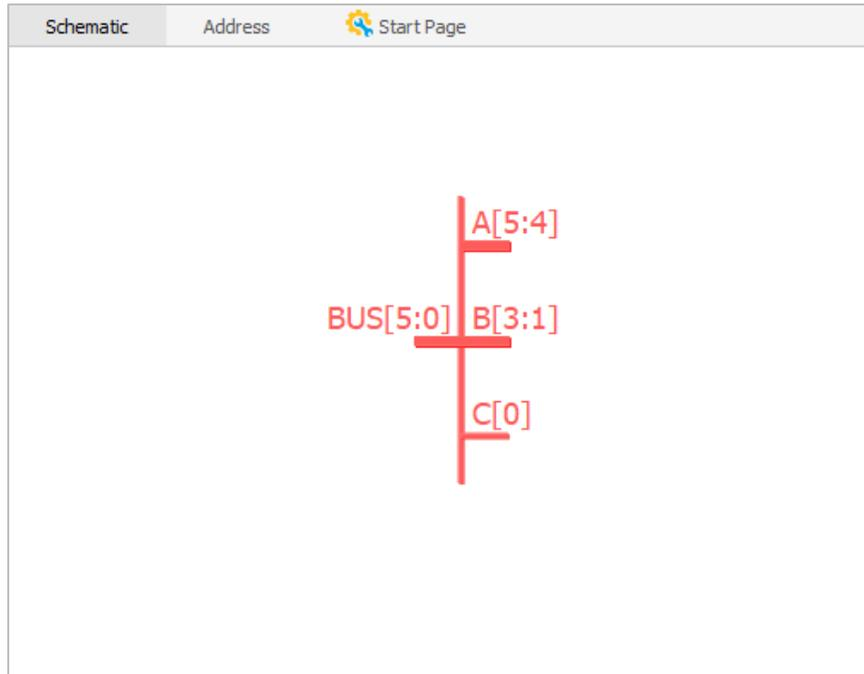

Figure 2.57. Schematic View Shows Split Module
- Click **OK**. The schematic block for the split module in red appears in the Schematic view (Figure 2.57).